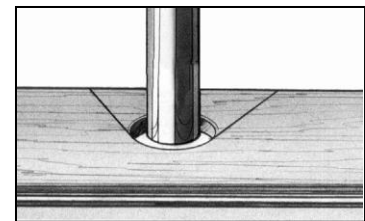

Fig. 36
7. Cut in from the edge at a 45° angle toward the holes in the piece (**Fig. 36**).